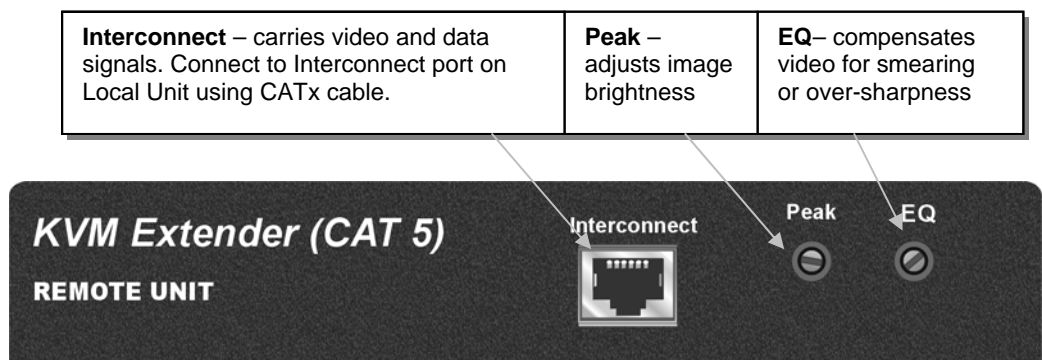

Figure 6 *SDLink Remote Unit - front view*
4. Connect the CATx cable to the INTERCONNECT socket on the front of the Remote Unit as shown in Figure 6.